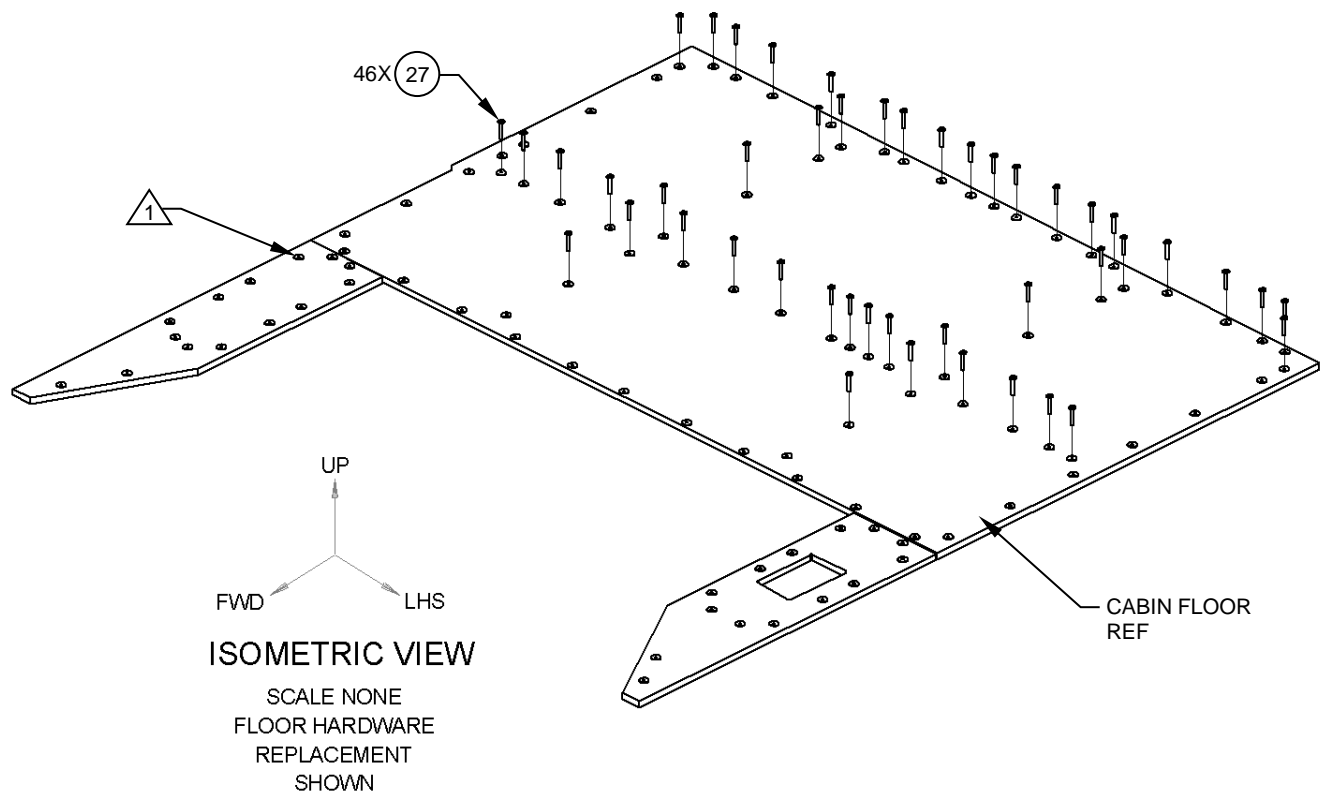

Figure 1
1. Gain access to the composite panel section of the cabin floor. Temporarily remove all passenger seats. Reference Figure 1.
2. Remove and retain for future use, 100X existing screws from the three composite panel areas. Reference Figure 1, Flag note 1.
3. Install 46X Screw, Washer Head, (Item 27), in locations shown. Reference Figure 1.